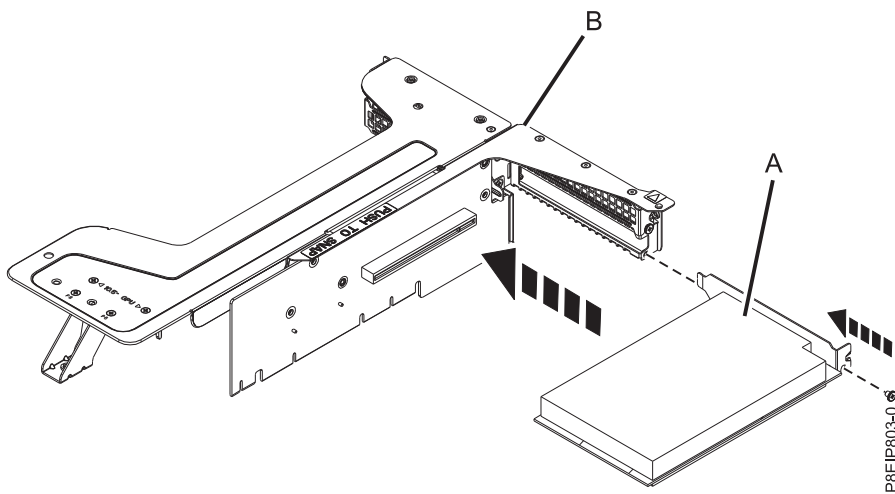

Figure 52. Inserting a SAS super capacitor carrier into position 2 of the riser
- e. If you have a SAS super capacitor carrier, insert that carrier (A) in position 2 of the PCIe adapter riser (B) as shown in Figure 52.